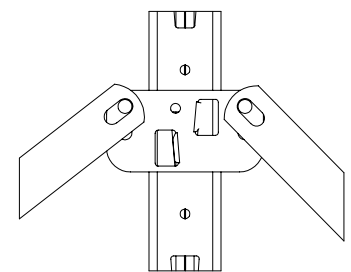

FIGURE 5
**4.** Attach sway braces to post connectors. Be sure to attach brace as per Fig. 5. Use 1/4-20x1/2 truss head bolts and keps nuts.